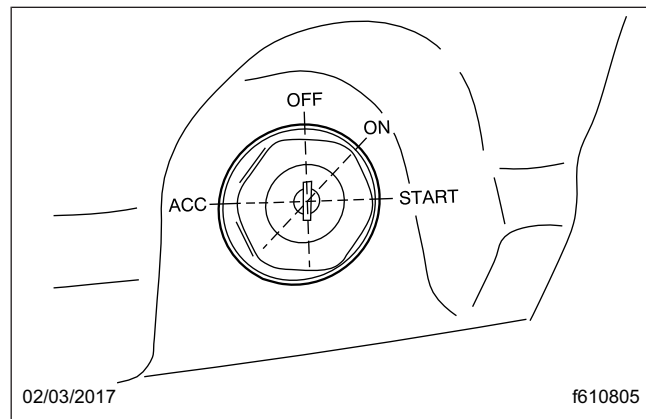

Fig. 10.1, Ignition Switch
4. Turn the ignition switch to the ON position (see **Fig. 10.1**), and allow the start-up sequence to complete.